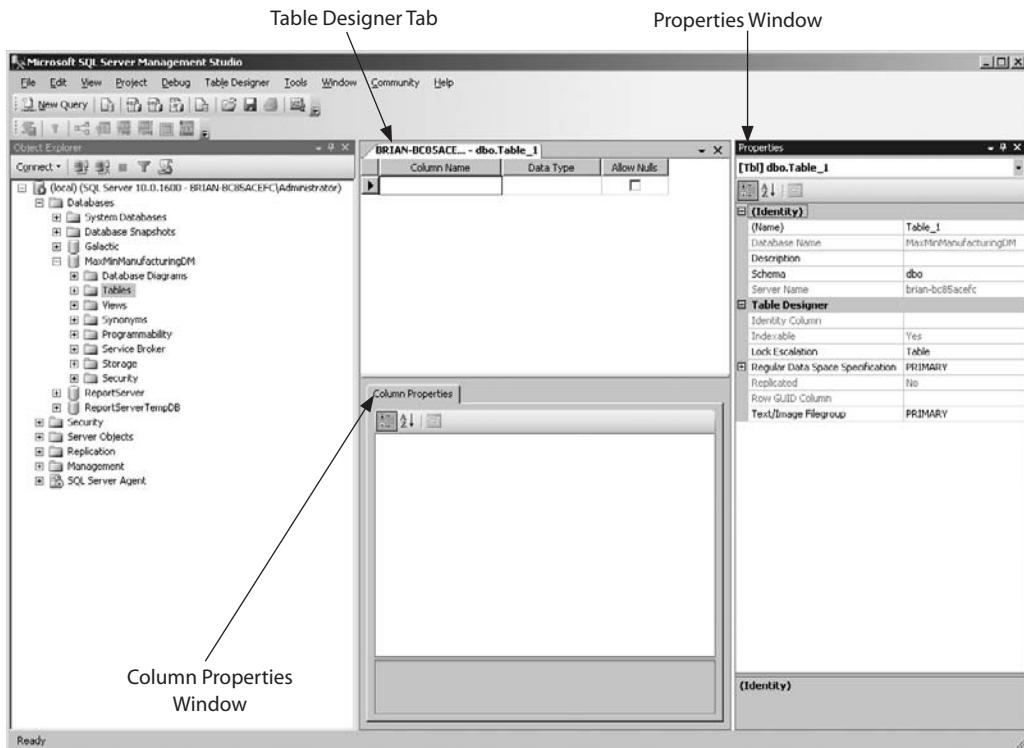

Figure 6-21 The SQL Server Management Studio ready to create a table
6. Expand the Databases folder and expand the MaxMinManufacturingDM database entry. Right-click the Tables folder and select New Table from the context menu. A Table Designer tab appears, as shown in Figure 6-21.
7. We use both the Properties window and the Column Properties window as we create our tables. If the Properties window is not visible, as shown in Figure 6-21, select Properties Window from the View menu. Be sure to note whether the entries in the following steps are being made in the Properties window or in the Column Properties window.